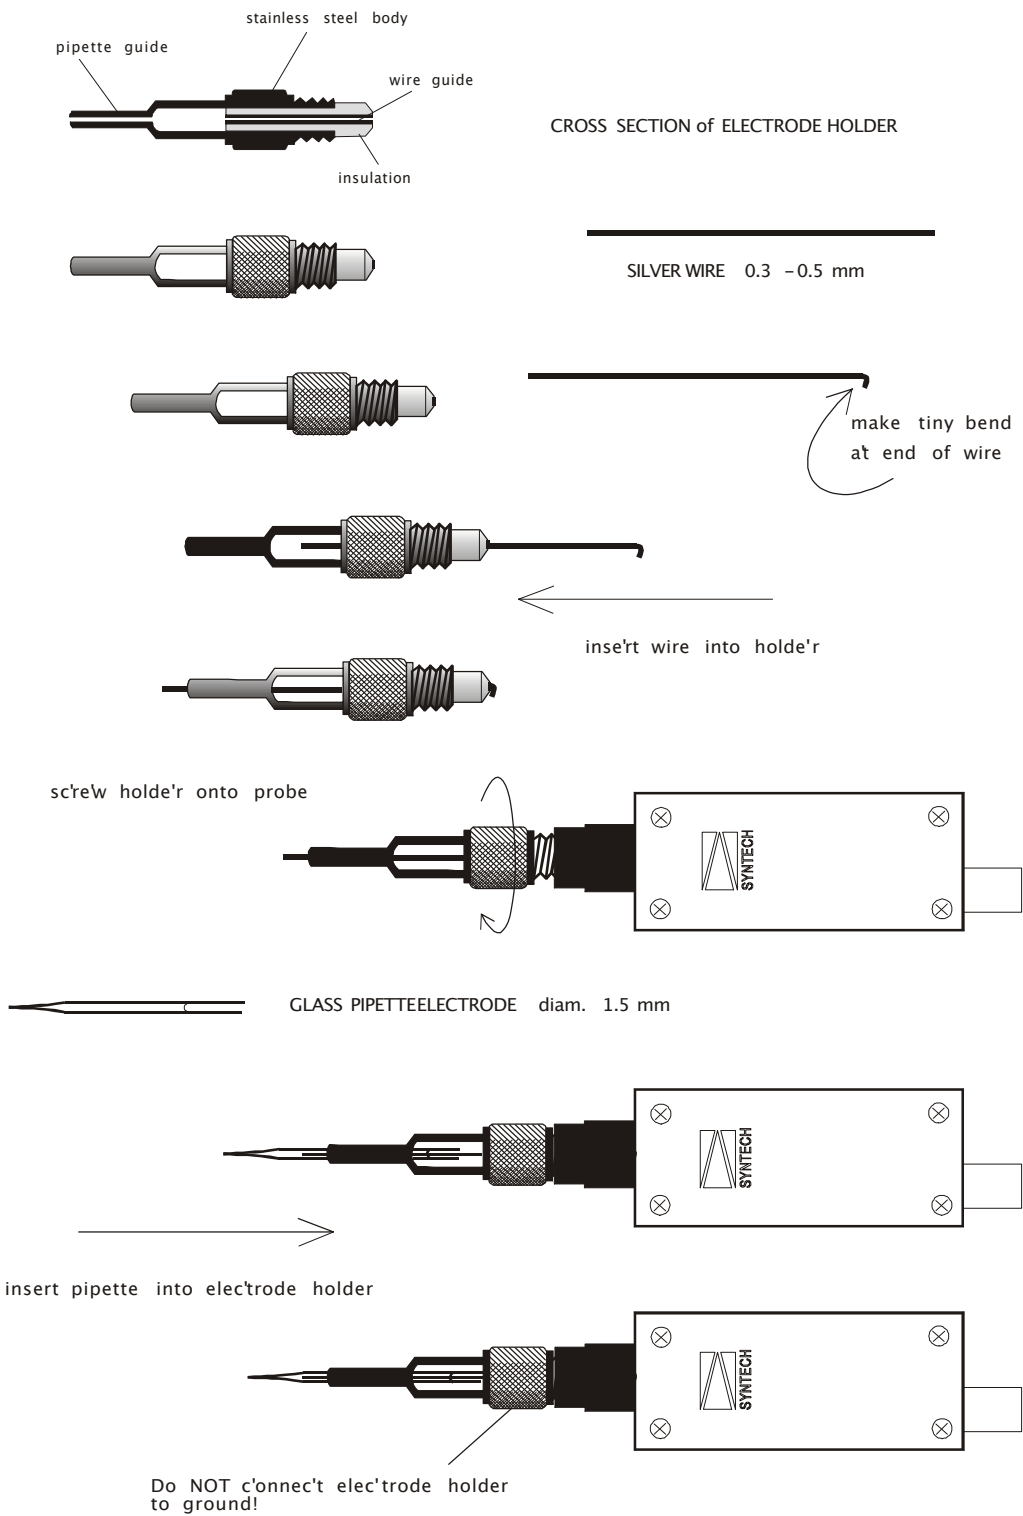

Fig. 5 Electrode Preparation
- 7 Prepare the **pipette electrode** (Fig. 5).